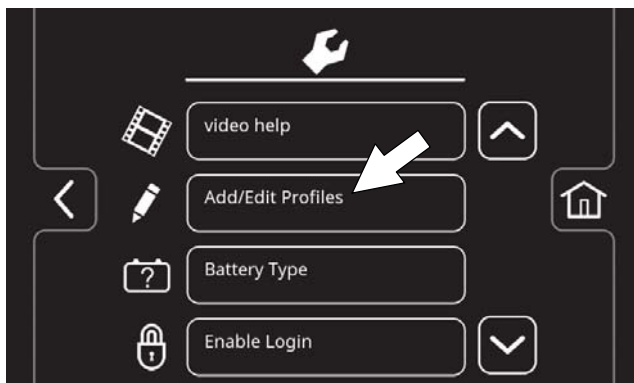

FIG. 183
2. Press the Add/Edit Profiles button (Figure 183).